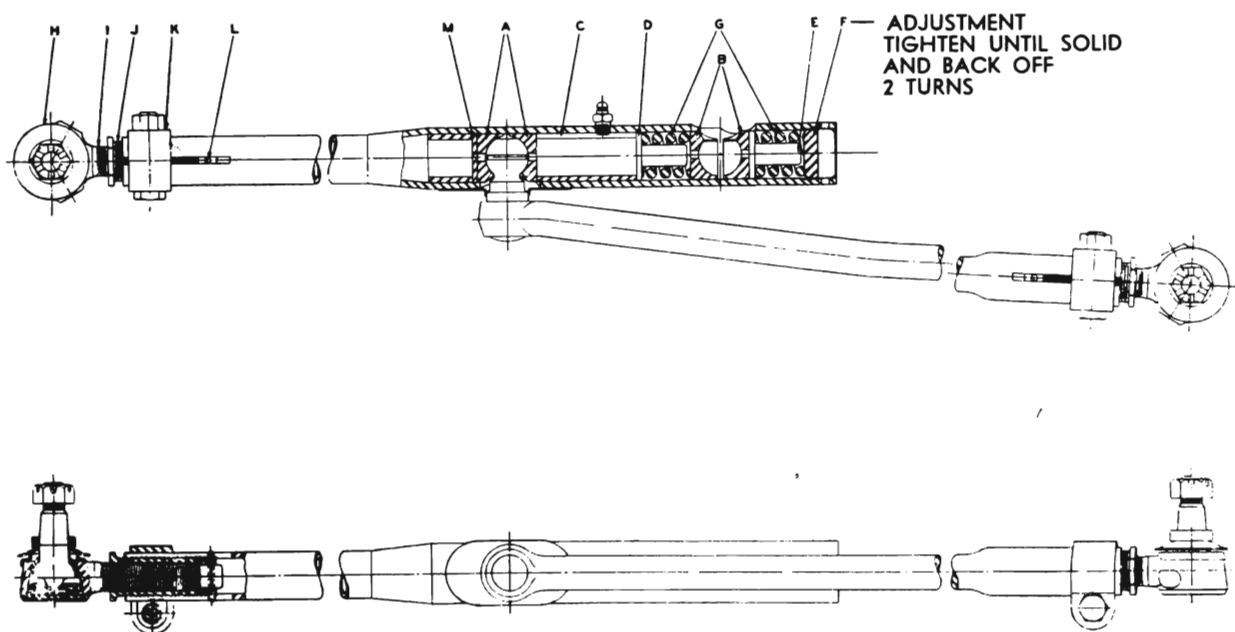

Fig. 9-8. Tie Rod and Steering Hook-Up—Series 60-70
2. Disconnect **steering tie rod** from **pitman arm**. Note the adjustment and location of the springs in relation to the ball seats. See "Tie Rods" and Fig. 9-8.
The tie rods are direct center point steering type. See Fig. 9-8.